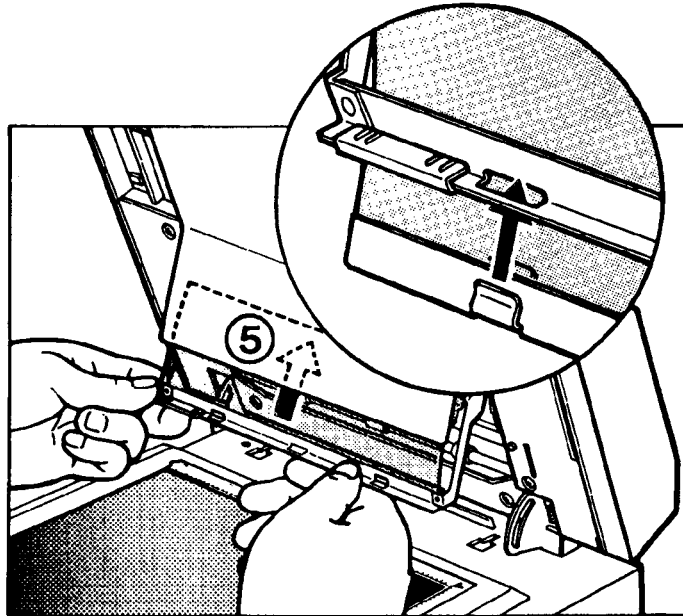

Figure D-15. Installing the Mylar Guide
5. With the metal frame lifted, insert the new Mylar guide. Make sure the new guide is placed behind the white plastic sheet. Attach the new Mylar guide's metal clips directly to the metal frame as illustrated in figure D-15. Be sure to attach the clips securely.